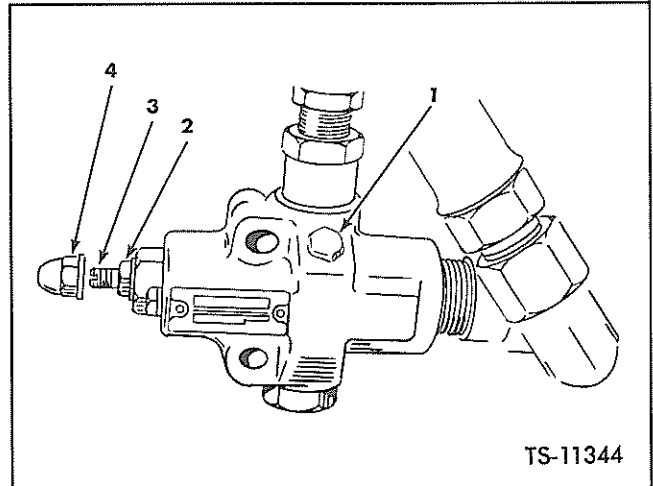

Fig. 27. Steering Pressure Relief Valve
1. Use hydraulic pressure gauge of at least 3000 psi (211 kg/cm²) capacity. With engine shut down, remove pipe plug in steering relief valves, and install gauge as shown in Figure 27, Item 1.
If the above items are in satisfactory operating condition it will be necessary to adjust the steering pressure at the steering control valve. See Figure 27.